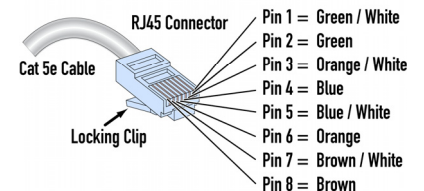

Figure 3
2. Using the T568A Wiring Standard (see **Figure 3**), terminate both ends of each Category 5 cable with RJ45 plugs and test the cable to insure it is terminated correctly.